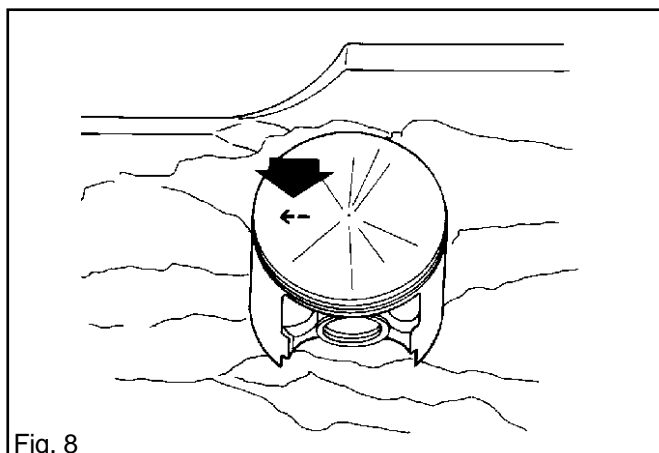

Fig. 8
2. Locate the piston with the arrow pointing towards the exhaust port. See fig. 8. Press in the gudgeon pin and fit the circlip.